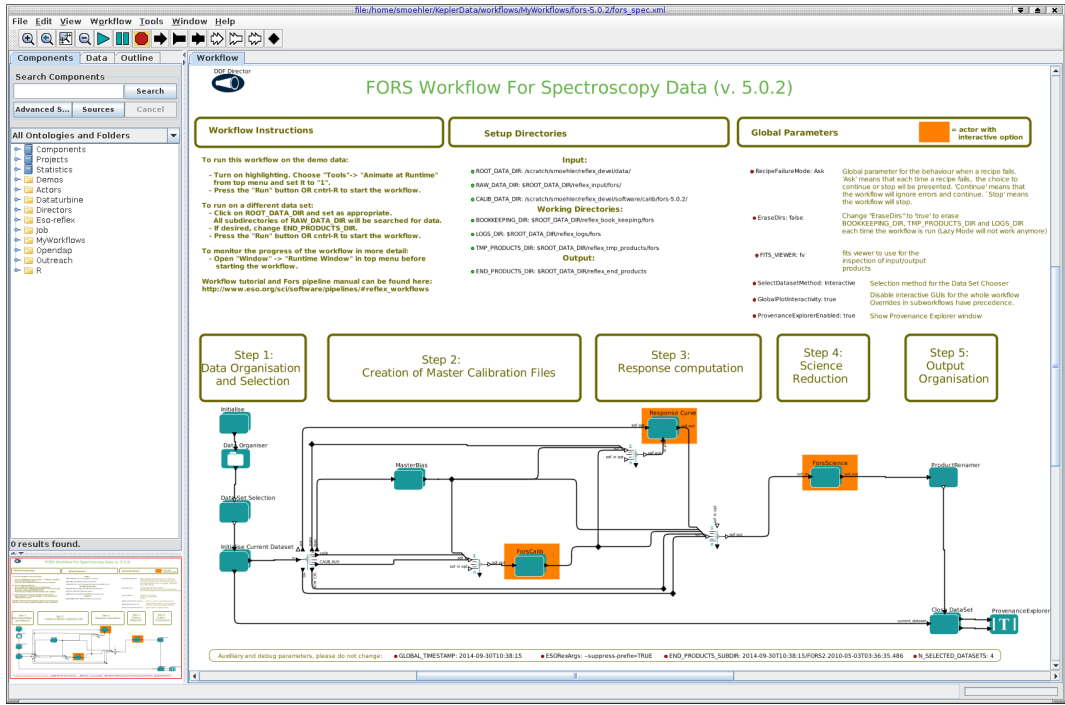

Figure 4.2: *FORS2 workflow general layout.*
2. Now open the FORS2 workflow by clicking on File -> Open File, selecting first fors-5.0.25 and then the file fors_spec.xml in the file browser. You will be presented with the workflow canvas shown in Figure 4.2. Note that the workflow will appear as a canvas in a new window.